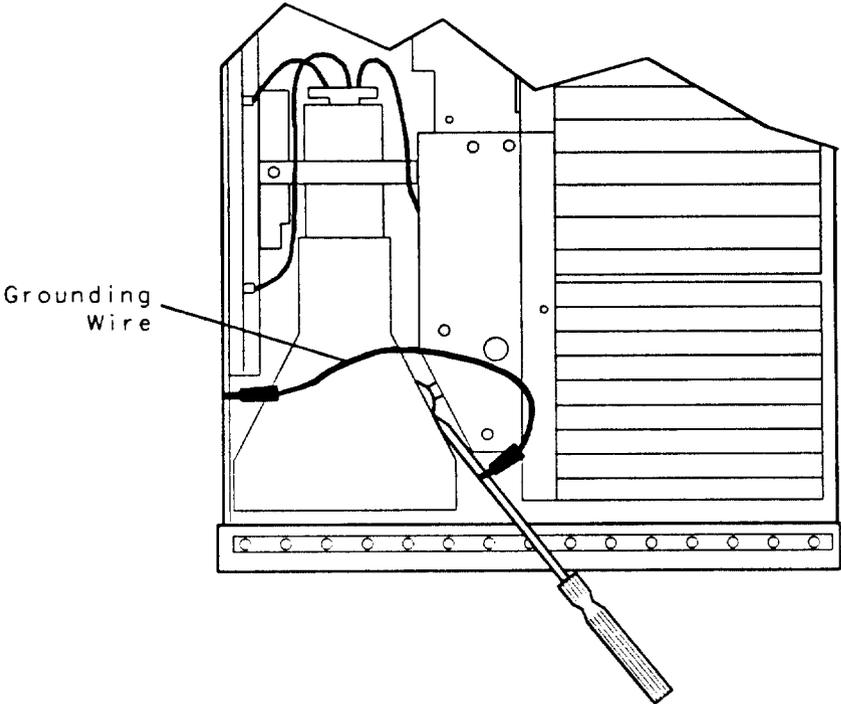

Figure 7. Discharging the Post-Accelerator Cable
4. Slide the screwdriver's blade between the CRT and the sheet metal as shown in Figure 7. Gently work the tip of the screwdriver under the post-accelerator cable's rubber shroud. Make sure that the screwdriver's tip touches the connection between the post-accelerator cable and the CRT. You should hear a cracking sound when the cable discharges.